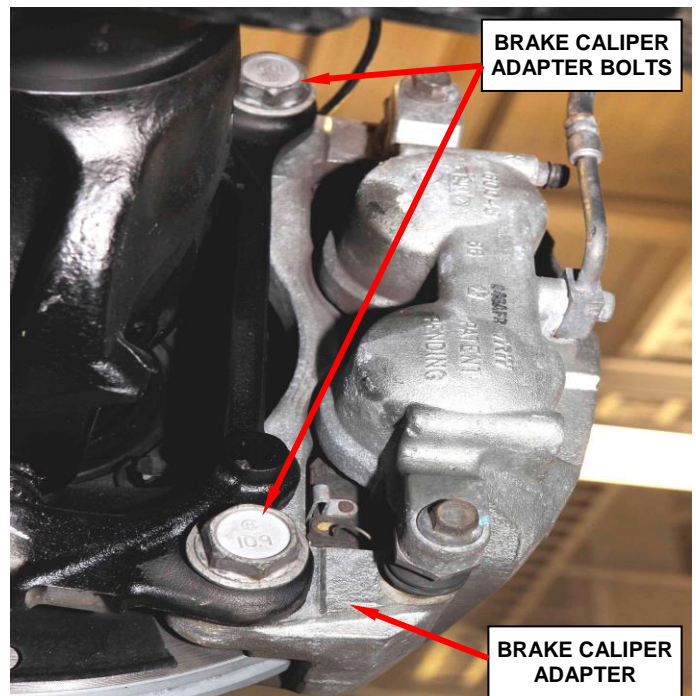

Figure 27 – Brake Caliper Adapter Bolts
8. Remove and save the right and left brake calipers and adapters as an assembly. Do not disconnect the brake hose from the brake caliper (Figure 27).